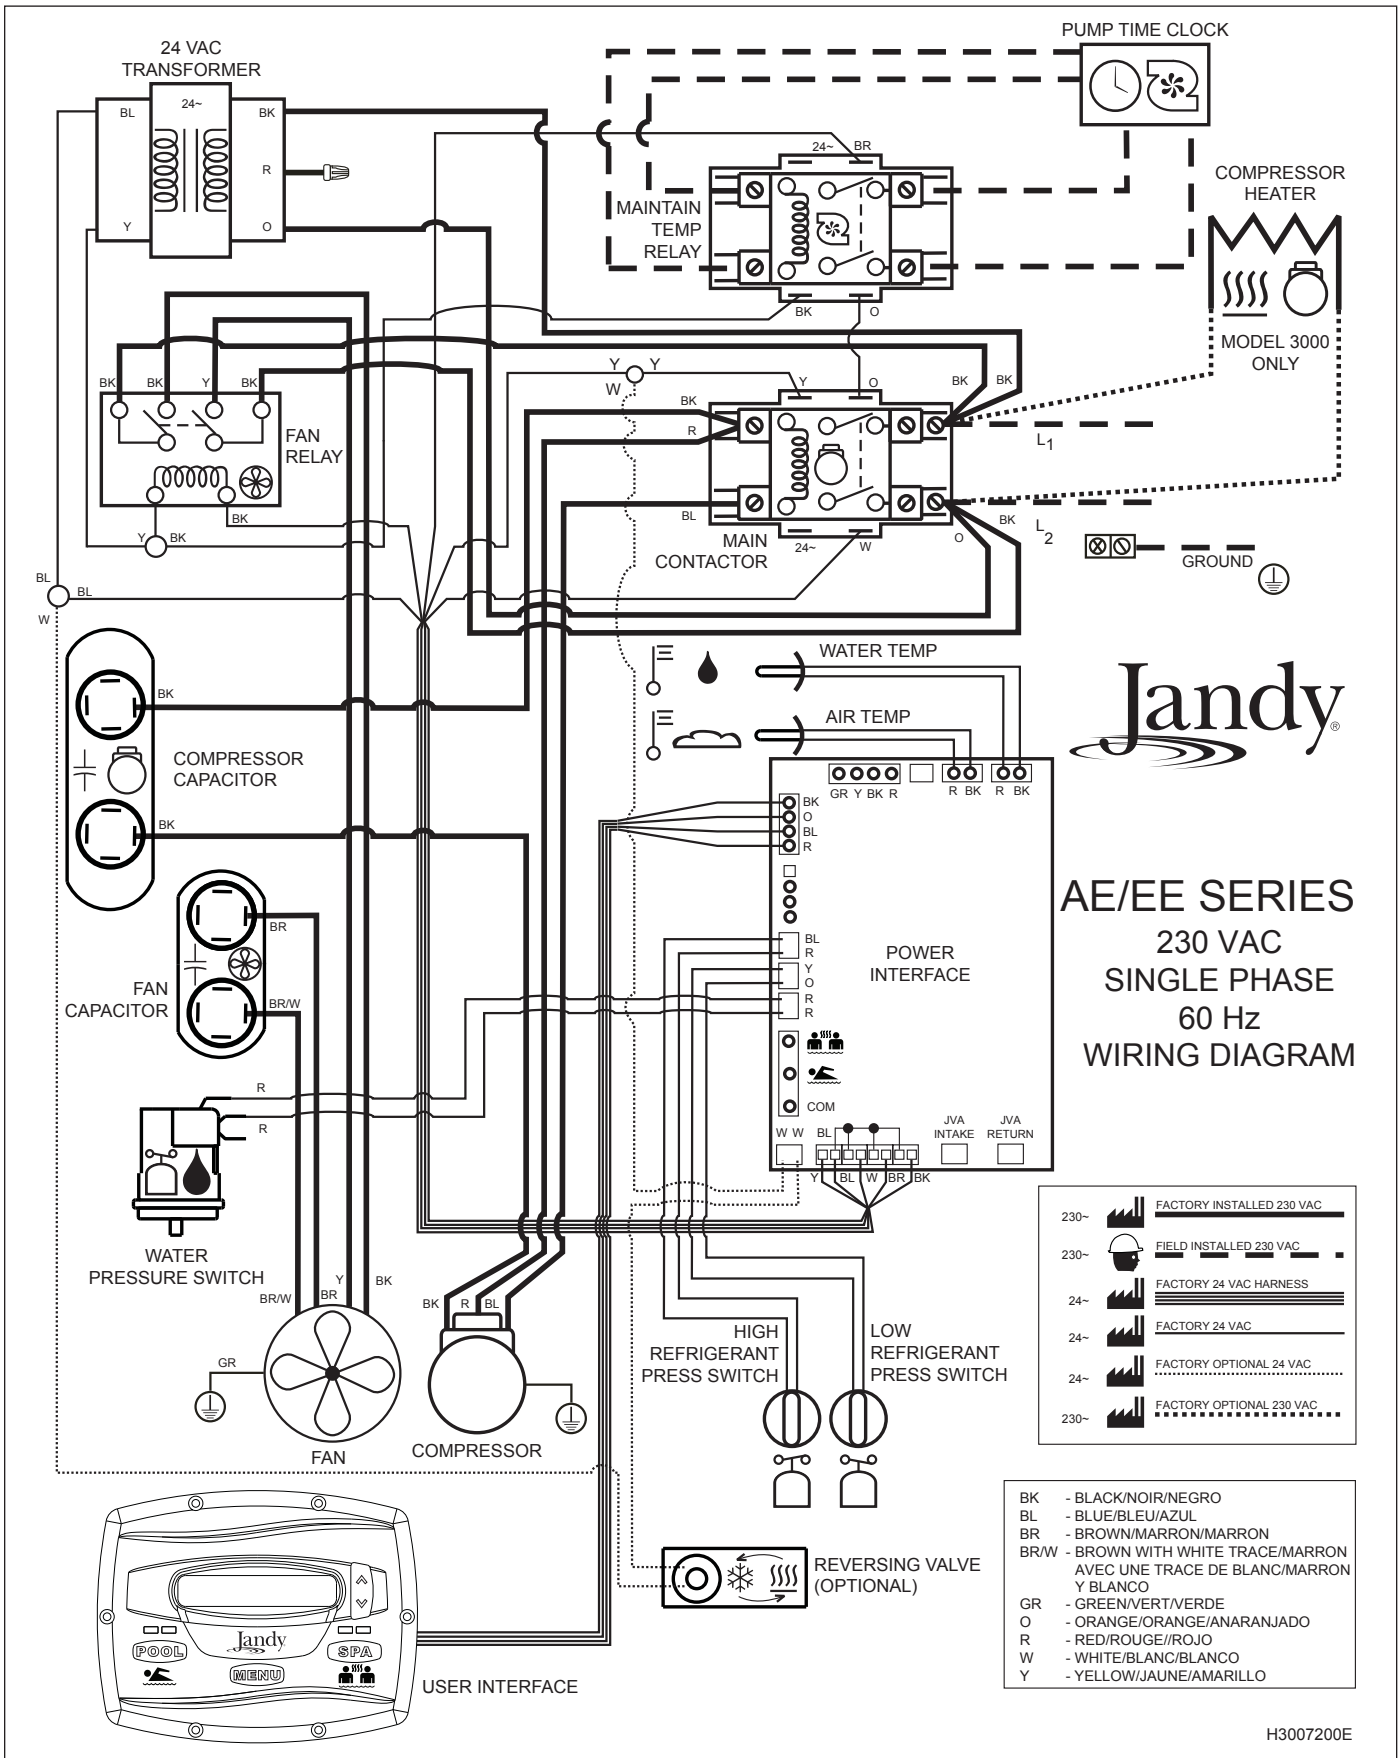

Figure 14. EE-Ti Heat Pump Single Phase Wiring Diagram
2. Using the wiring diagrams for reference, verify the routing of the wires to the components in the electrical box. Refer to Figures 14 and 15.